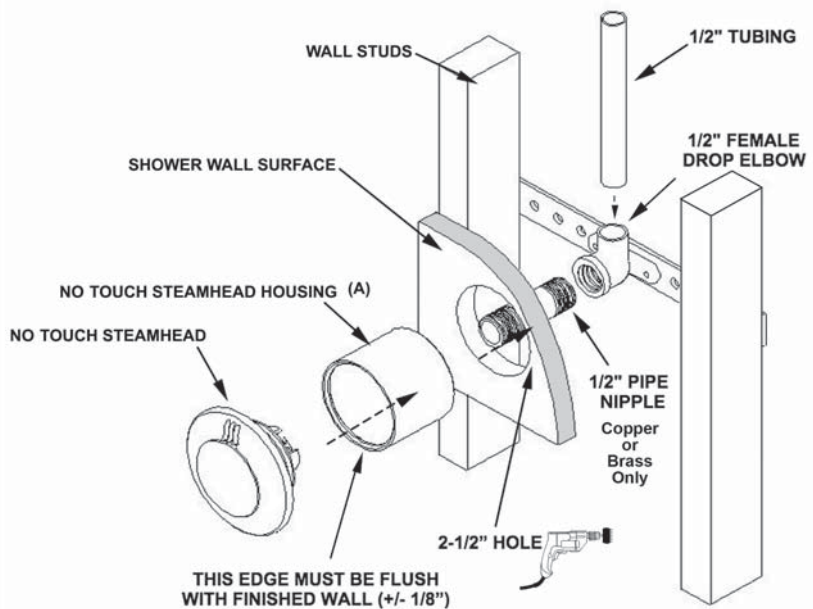

Figure 4
2. Connect a 1/2" NPT brass pipe or tubing to the steam outlet on the generator running the pipe to the 2-1/2" diameter hole in wall to connect with the Steamhead housing. Use **Figure 4** as a guide. It is very important that the pipe is firmly secured to the wall, so that when the Steamhead is installed it doesn't push the housing back into the wall. The steam line can run up, down, or horizontal; but cannot run down and then up. If it does, a steam trap may be produced at the low point blocking the flow of steam. Install a 1/2" drop elbow on the end of the 1/2" pipe or tubing for the Steamhead housing. For all the connections, use Teflon tape/solder and do not over tighten fittings. **DO NOT USE PVC CEMENT.**